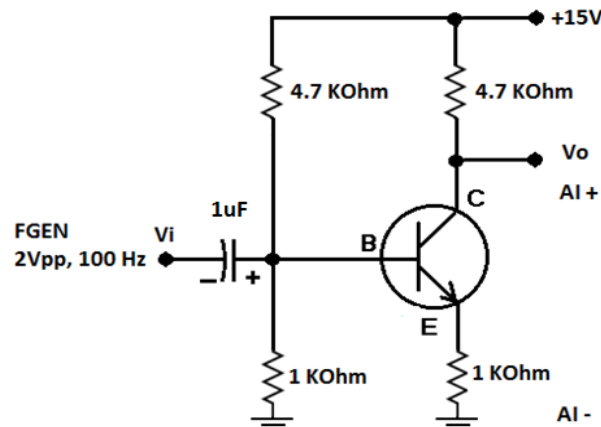

Figure 9.3: Common Emitter Amplifier.
1. Connect the circuit as shown in the figure 9.3.